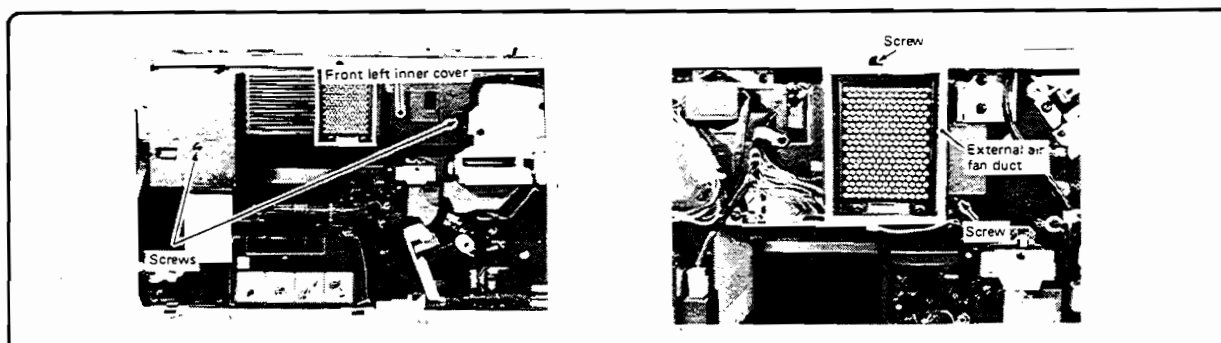

Figure 6-97. Engine-FM6 External Cover and Fan Duct
2. Remove the print engine front left inner cover (Figure 6-97).